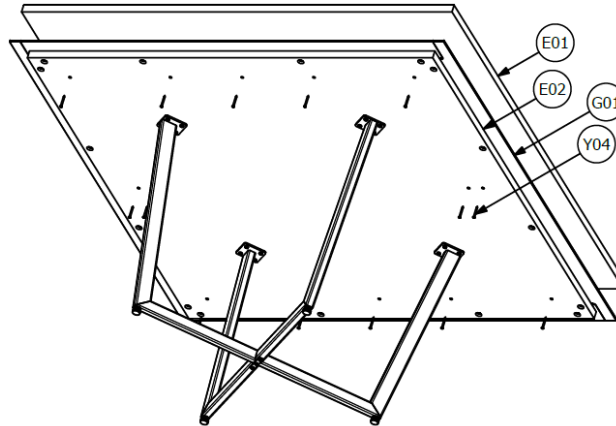

FIGURE 07: 1-PIECE WOOD TOP ASSEMBLY
1. Place Top (E01) on Subtop (E02). See Figure 07.
2. If equipped with Edge Trim (G01), position the Top so that an equal amount (1/4") of the Edge Trim shows. If not equipped with an Edge Trim, center Top on Subtop. See Figure 07.
3. Once Top is positioned, use Fastener (Y04) to secure them. See Figure 07.